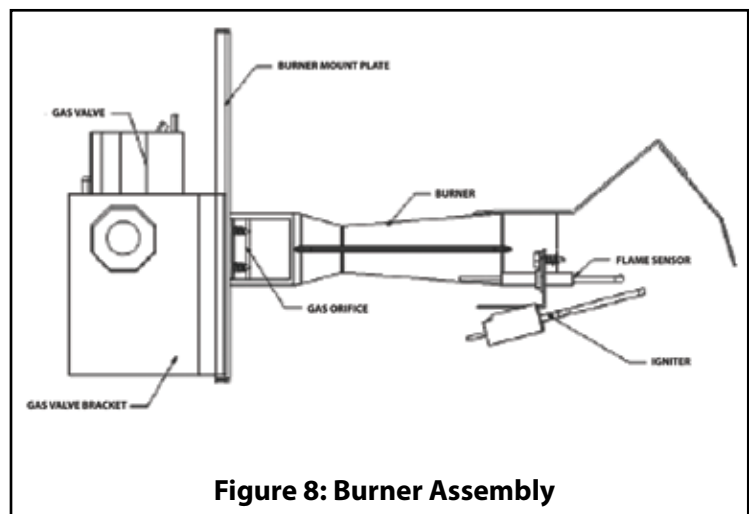

Figure 8: Burner Assembly
7. Remove the sixteen (16) screws from the burner mounting plate and remove the burner assembly. Refer to Figure 8.
8. Remove the 10 screws from the burner mounting plate and remove the burner assembly (See Figure 8).